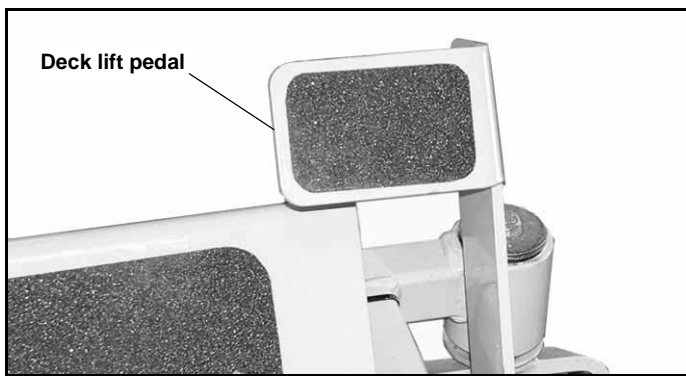

Figure 3-4
B. Deck lift pedal (Figure 3-4) — the deck lift pedal is used to raise or lower the deck. Push on the pedal to raise the deck and then place the deck height locking pin into the desired cutting height hole. Push the deck lift pedal to raise the deck when going over obstructions.